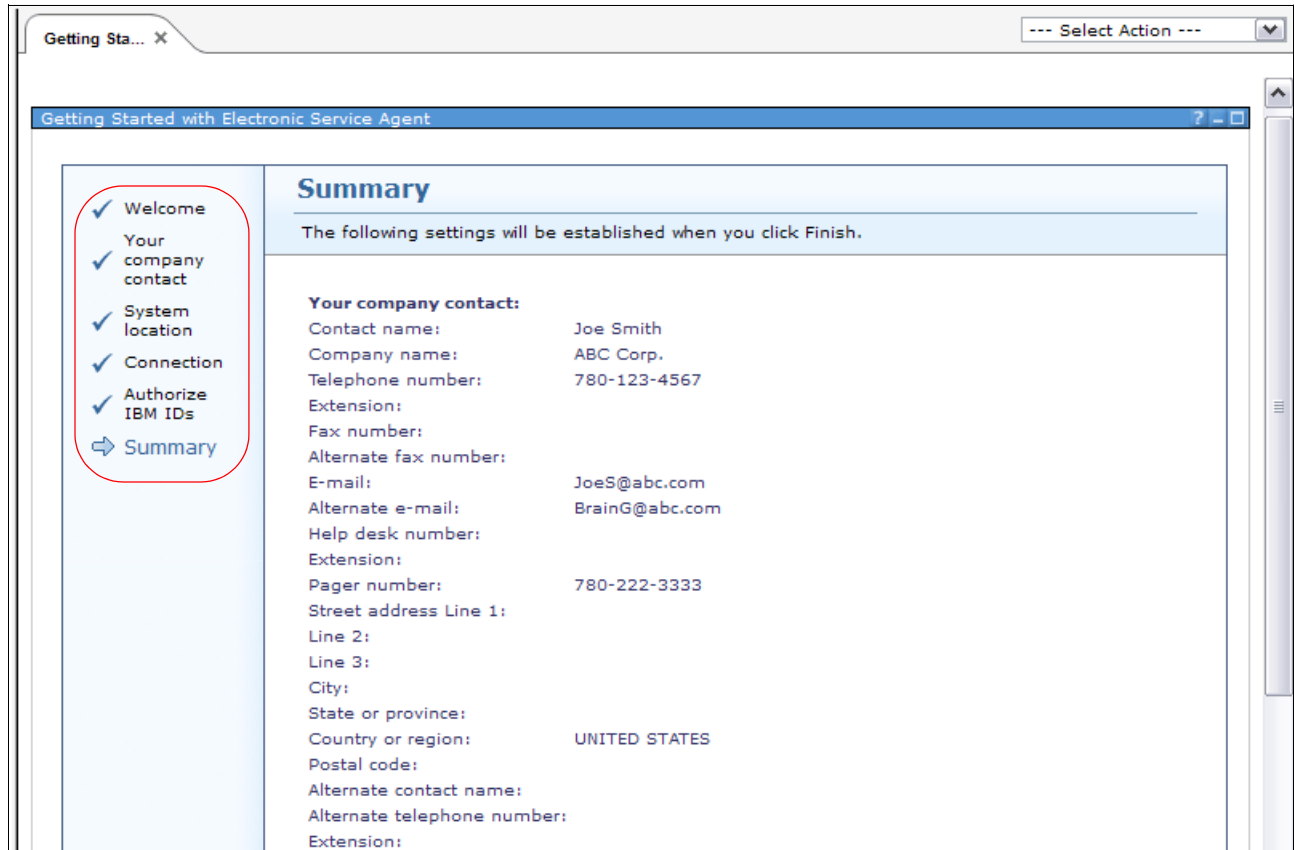

Figure 13-45 Summary screen for review
6. Click Next, Review the Summary page and click Finish if all information displayed is correct, as shown in Figure 13-45 on page 569.